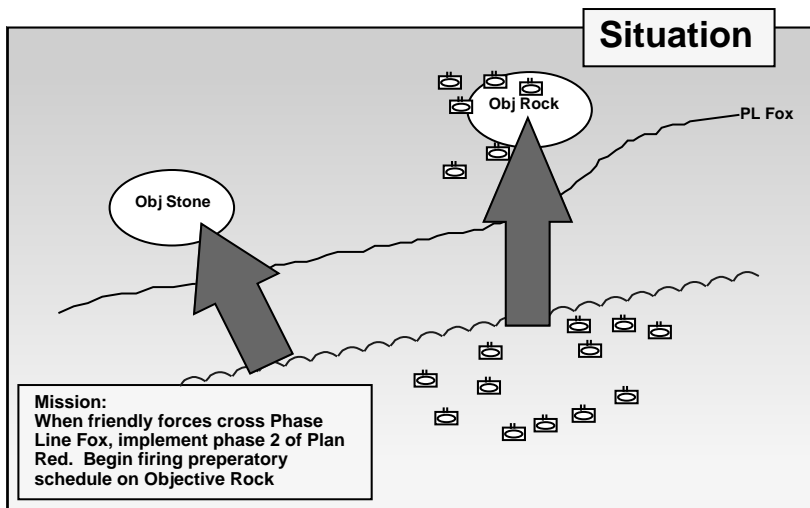

Figure 34. Use of Trigger Events to Monitor Friendly Situation
C. Trigger Events-Example 2. Figure 34 below shows the use of the trigger capabilities to monitor the friendly situation in order to synchronize fire support with the maneuver operation.